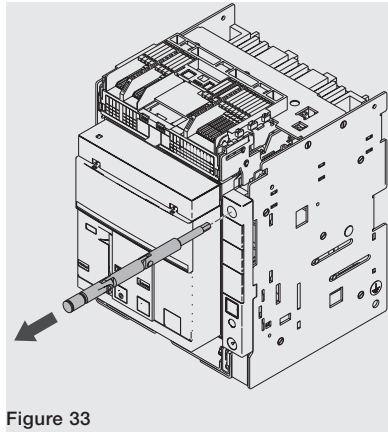

Figure 33
4. Extract the disconnection crank from its housing See Figure 33.